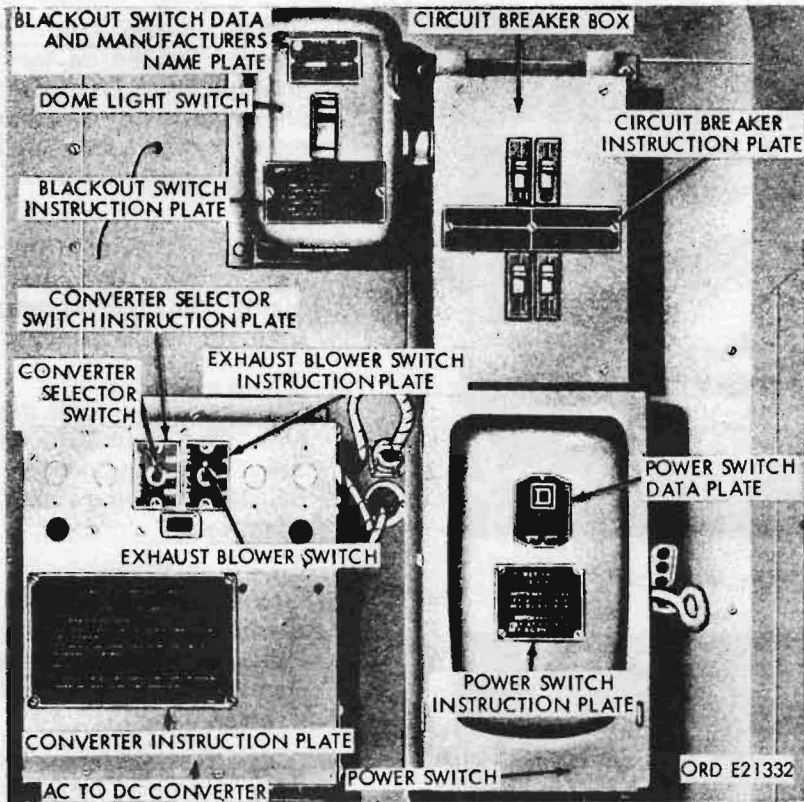

Figure 63. Shop van body front interior panel electrical components
- (1) Circuit breaker box (fig. 63). The circuit breaker box, located on the front panel inside the body, has four circuit breakers which control the body electrical circuits.
- (2) Power switch (fig. 63). The power switch, located on the front panel inside the body, controls all power to the shop van-body electrical circuits except the 24-volt ac-to-dc converter for the exhaust blower.
- (3) Dome-light switch (fig. 63). The dome-light switch, located on the front panel inside the body, controls the dome lights in the 115-volt ac system.
- (6) Converter selector switch (fig. 63). This switch, located on the ac-to-dc converter on the van front inside panel, selects converter circuit operation.
- (7) Exhaust blower switch (fig. 63). This switch, located on the ac-to-dc converter on the van front inside panel, controls the power to the exhaust blower.